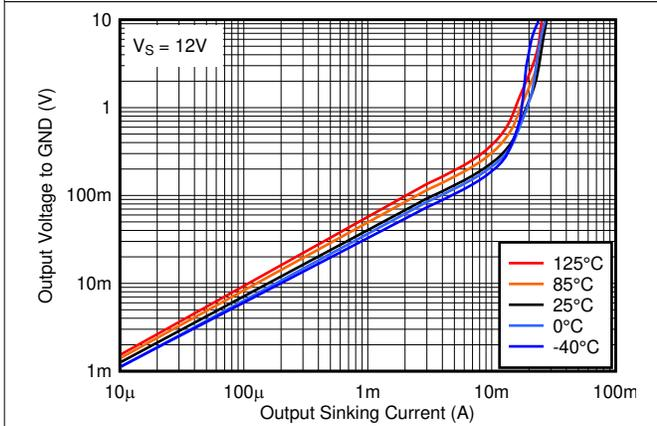

Figure 2-21. Output Low Voltage vs. Output Sinking Current at 12V
Output current is determined by the load/pull-up resistance and logic/pull-up voltage. The output current produces a output low voltage (V_{OL}) from the comparator. In which V_{OL} is proportional to the output current. Use Figure 2-21 to determine V_{OL} based on the output current.
- R_{CE} can be determine by taking the slope of Figure 2-21 in it's linear region at the desired temperature, or by dividing the V_{OL} by I_{out}